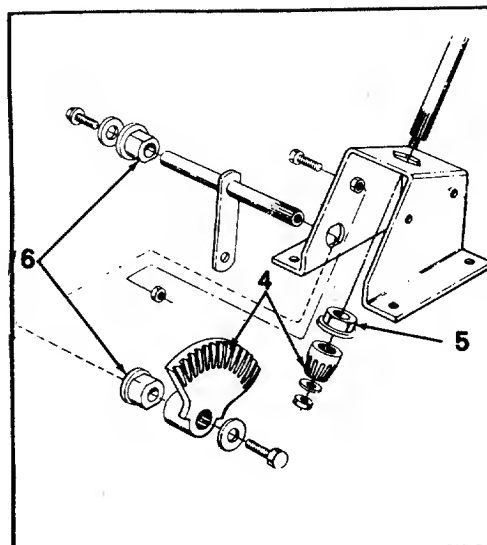

FIGURE 17.
4. **Steering Gears (2).** Lubricate teeth of gears with automotive multi-purpose grease after every 25 hours of operation or once a season. (See figure 17.)
5. **Steering Column Bearings (2).** Lubricate the top and bottom bearings with SAE 30 oil after every 25 hours of operation or once a season. (See figure 17.)
6. **Steering Shaft Bearings (2).** Requires no lubrication. (See figure 17.)